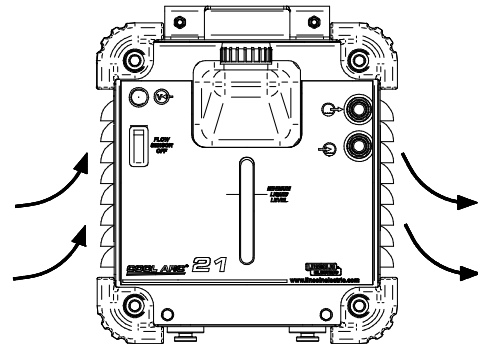

Figure 4.
9. Airflow Slots: Enable proper circulation of air cooling (Figure.4).